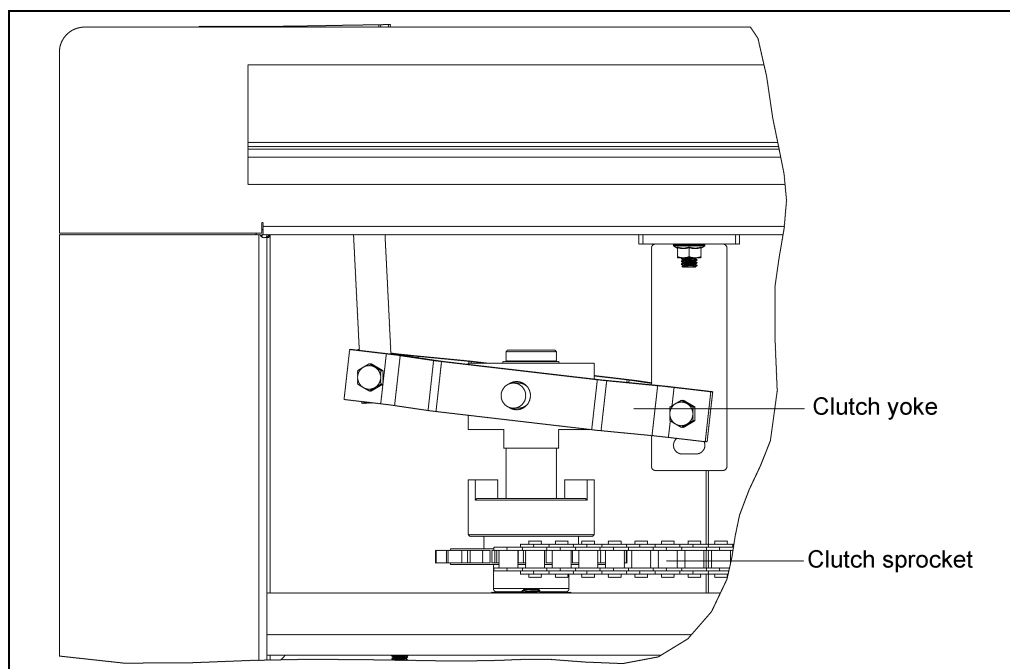

Figure 3B
5. Slide the clutch yoke driving jaw away from the clutch sprocket driven jaw as shown in Figure 3B.